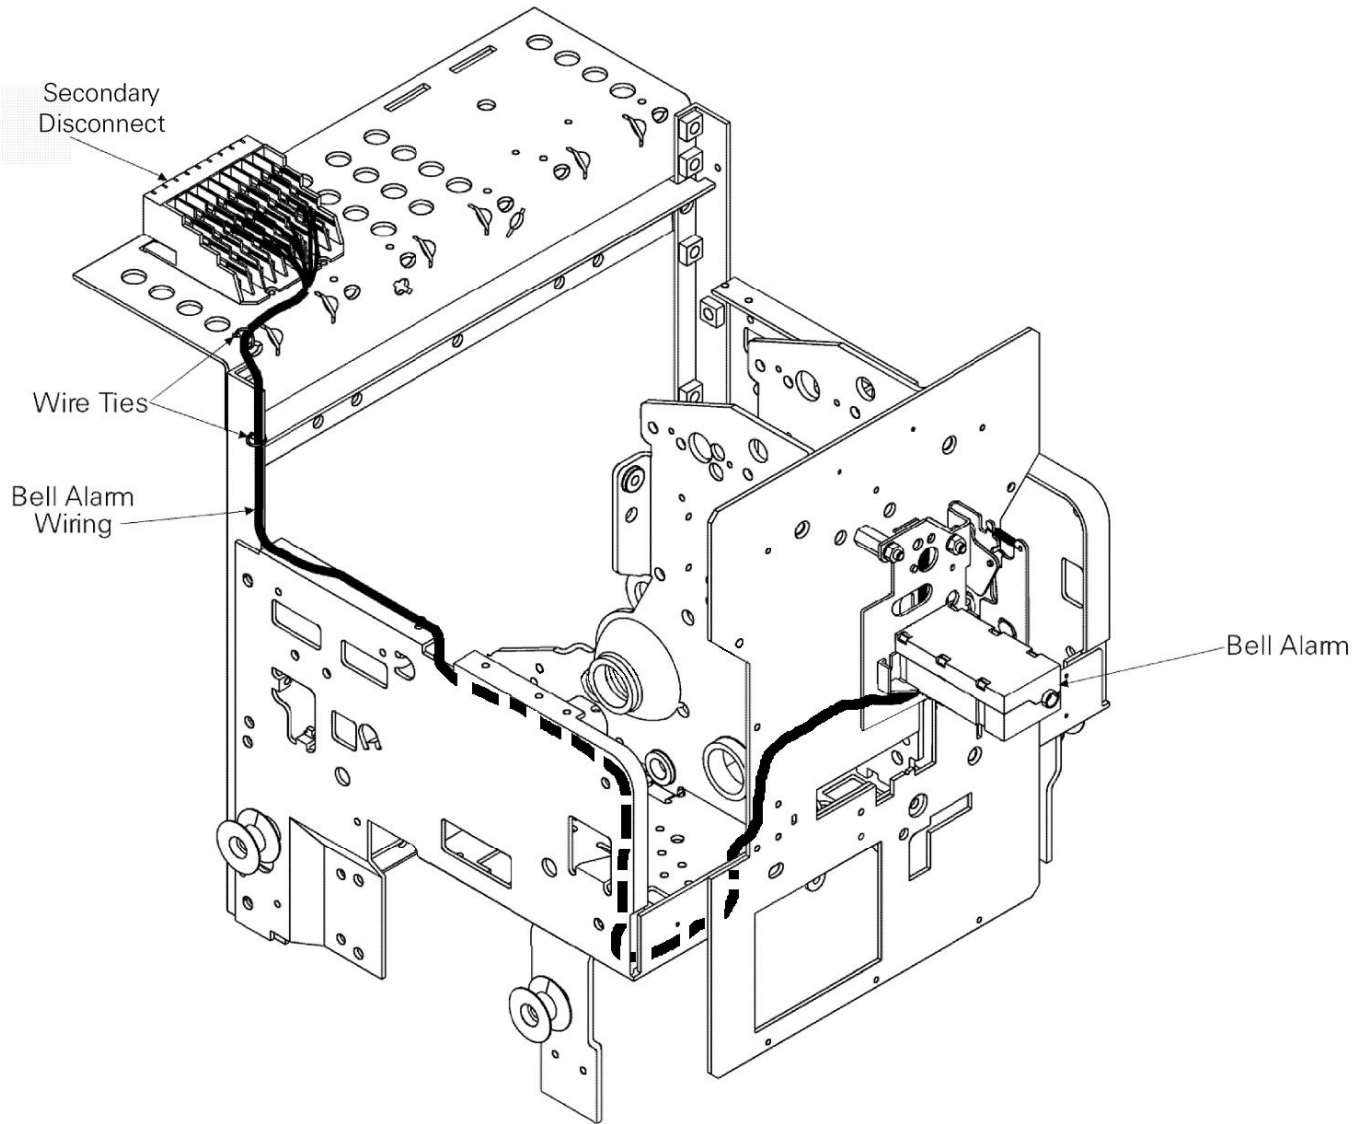

Figure 5. Path for routing wires from the Bell Alarm to the secondary disconnect.
8. Run the wires from the Bell Alarm module to the secondary disconnect, as illustrated in Figure 5. Attach the wires to the breaker frame with wire ties as indicated. Table 1 lists the wire colors and terminal numbers. Figure 6 shows the secondary disconnect terminal numbering scheme, as seen from the front of the breaker, with the Bell Alarm terminals in bold.